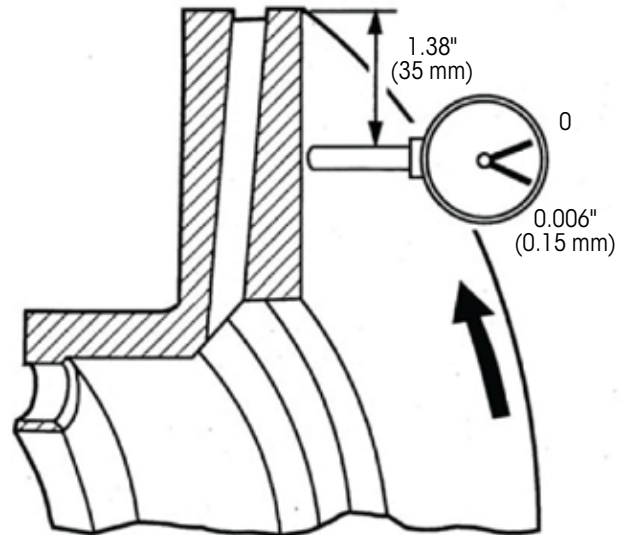

Figure 16: Checking rotor runout
2. **Loosen** the pad retainer screw from the brake caliper (Figure 16). Refer to APPENDIX A: WRENCH SIZE AND TIGHTENING TORQUES on page 37, Item II. Apply slight pressure on the pad retainer bar with your hand at the same time.